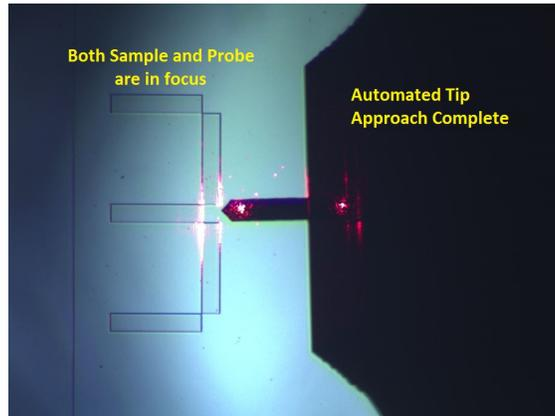

Figure 26: Tip Approach completed
4. Once the tip engages the sample, the **In-Feedback** indicator will turn on. Both the sample and the cantilever will be in focus (Fig. 26). If the **Z Drive (V)** is very close to the  $\pm 10$  V limit, do a **Re-Center** (be careful with the feedback parameters, see details in the video tutorial, including on **False Feedback**).